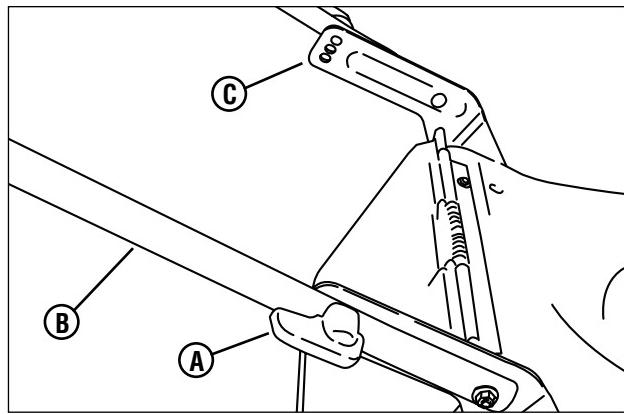

Figure 1: Unfolding the lower handle
3. Turn the knobs (A, **Figure 1**) on either side of the lower handle (B) to retract the locking pins. Raise the lower handle, aligning it with one of the three sets of holes in the handle brackets (C). Turn the knobs to release the locking pins and secure the lower handle.